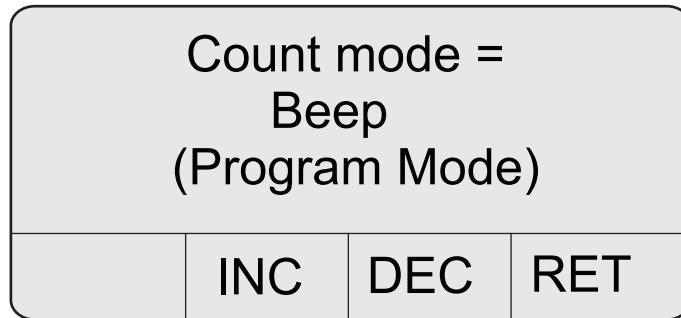

Figure 23 Count mode
2. Press 2 (NXT) to display the Count mode screen (refer to Figure 23).